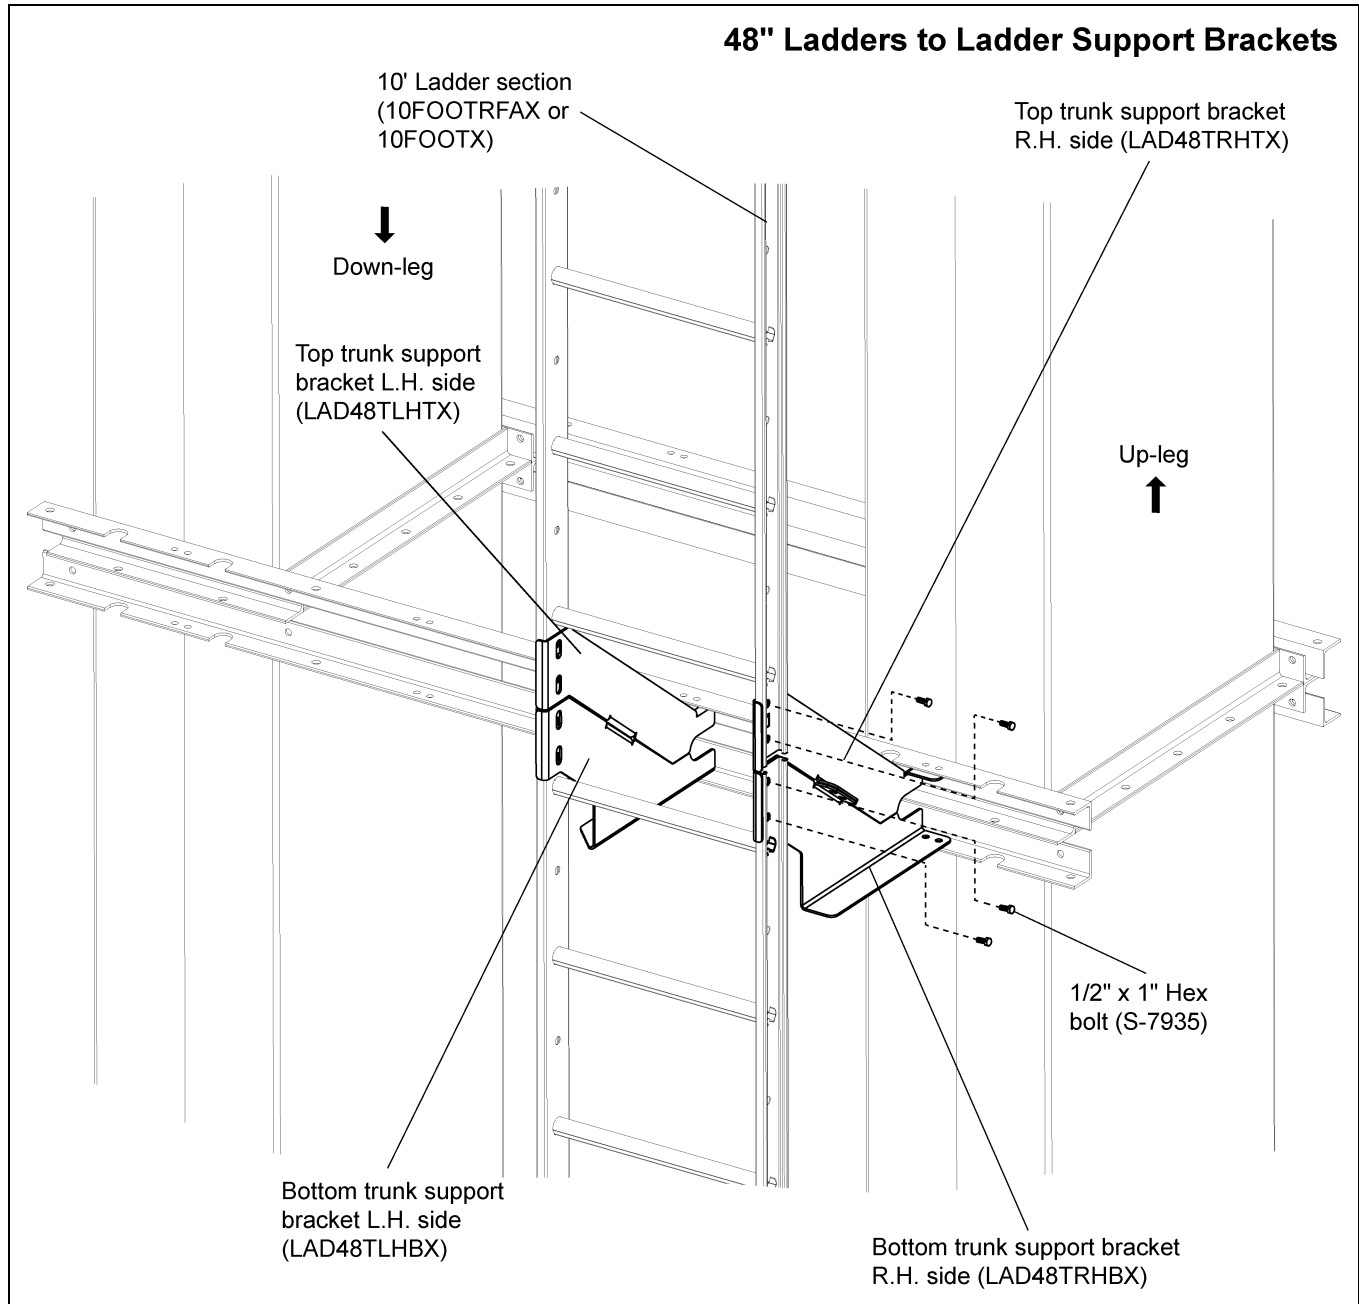

Figure 6U
3. Fasten ladders to ladder support brackets using 1/2" x 1" HHCS bolts (S-7935) and 1/2" flange nuts (S-8506). (See Figure 6U for 48" connections.)